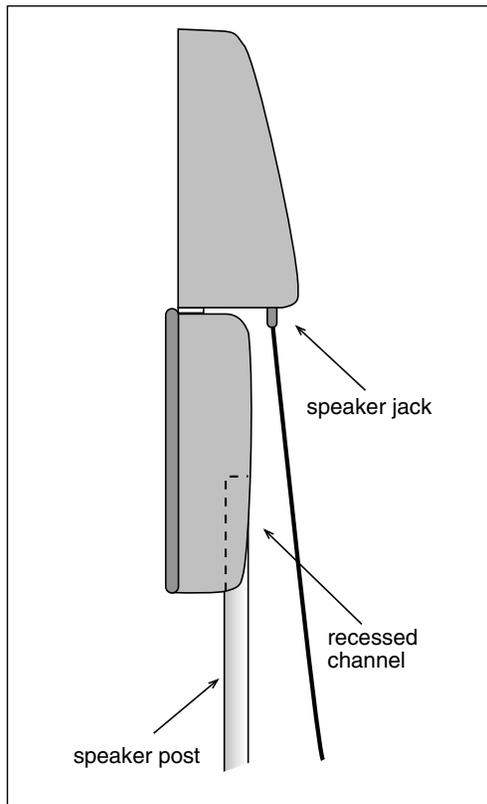

Figure 5.1.1.2B—Upright sound field speaker
- Open the test box and mount the speaker on the pole. The recessed metal channel on the outside of the box slides over the upright pole. See Figure 5.1.1.2B. The speaker is now ready for real ear testing.